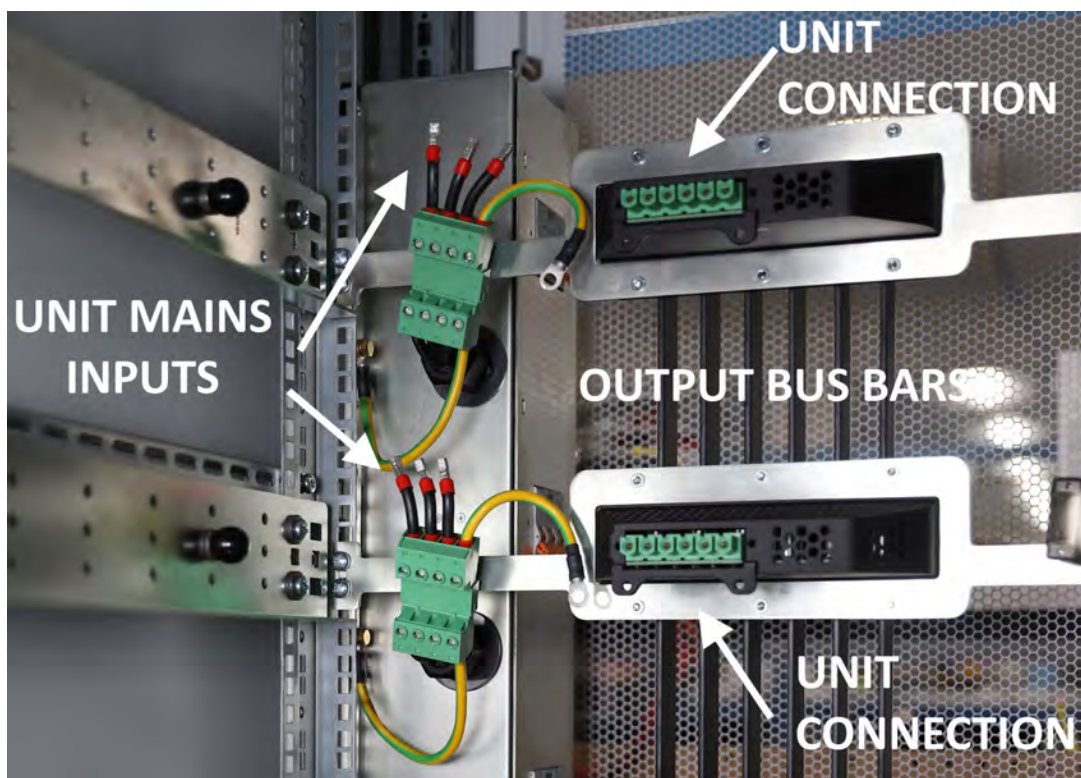

Figure 5-20: Cabinet Systems Internal Bus Bars
2. By using the front panel mounted circuit breakers on the master and auxiliary units. Turn On and Turn Off sequence recommendations are listed below and illustrated in Figure 5-20. The sequence is not critical as long as units are turned on within 15 seconds of each other. If more time elapses, an error may be displayed and the master/aux discovery process should be restarted from the PARALLEL UNITS screen in the SYSTEM menu. Refer to section 6.8.7, "PARALLEL UNITS Screen".